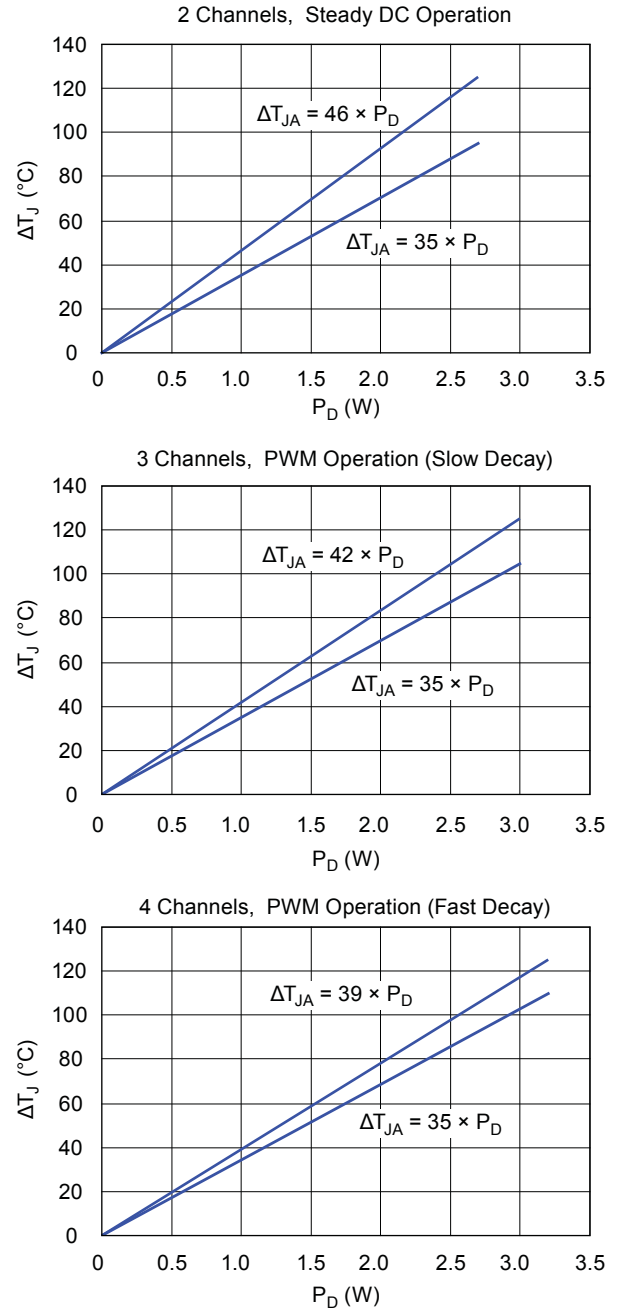

Figure 15. Change in junction temperature versus device power dissipation
Using the above calculated power dissipation, it is possible to estimate the junction temperature using the curves in figure 15. In the worst conditions (with high ambient temperatures), as long as the junction temperature does not exceed 150°C the device will not be damaged. However, the actual temperature of the device should be measured along with the junction temperature calculation.
5. Refer to figure 15 and locate the value found in step 4 on the ΔT_{CA} trace.